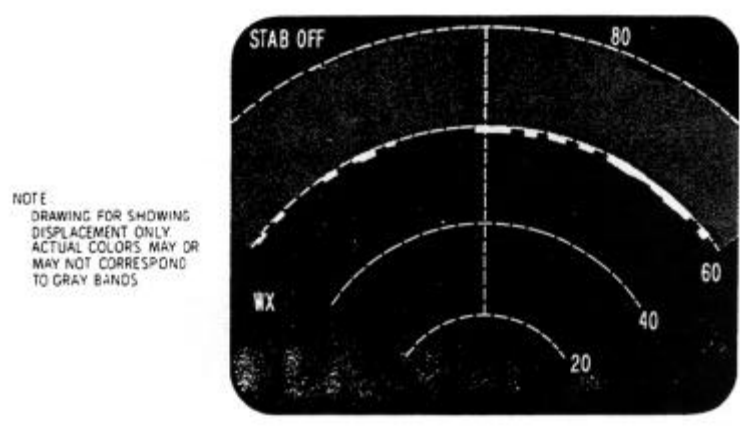
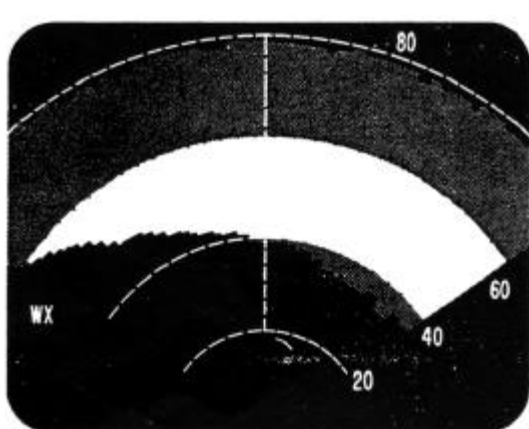
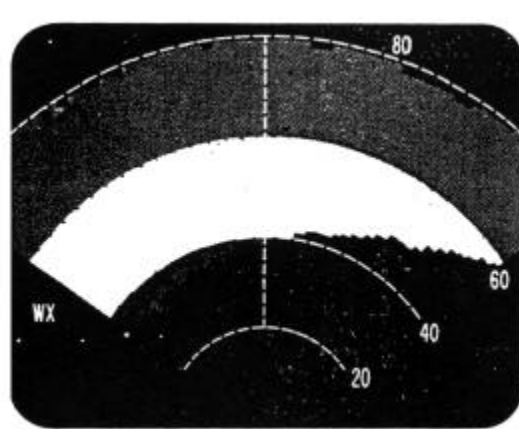

Figure 2.9-1. Video Pattern, Level Flight
Figure 2.9-2. Video Pattern With Stab Error
Figure 2.9-3. Video Pattern With Stab Error
- (1) Fly to a convenient altitude above 10,000 feet.
- (2) Select a range of 80 nautical miles, or 40-mile range for 12-inch antennas. Set the mode to SRCH 3.
- (3) Pull the PULL STAB OFF switch (on tilt control pot) out on the Radar Control Panel to remove antenna stabilization.
- (4) While flying level ( $0^\circ$  pitch,  $0^\circ$  roll), adjust the TILT control on the Radar Control Panel to obtain the video pattern shown in Figure 2.9-1, then note TILT control setting. The terrain band should be displayed about the third range mark.
- (5) Push the PULL STAB OFF switch (on tilt control pot) in on the Radar Control Panel to restore antenna stabilization.
- (6) The pattern observed in step (4) should not change. If the pattern shifts as in Figure 2.9-2 or Figure 2.9-3, it will be necessary to ground-check leveling of the gyro and accuracy of the Horizon Situation Indicator. Use TILT control to find exact error.
- (7) Roll the aircraft  $20^\circ$  right. For perfect stabilization, the terrain band shown in Figure 2.9-1 should not shift.
- (8) In step (7), if the terrain band shifts as shown in Figure 2.9-2, increase the tilt angle, by means of the TILT control on the Radar Control Panel, until the pattern is similar to Figure 2.9-1.
- (9) In step (7), if the terrain band shifts as shown decrease the tilt angle (using the TILT control) is similar to Figure 2.9-1. Note the new position control. It should not be more than two degrees in step (4).
- (10) If the differences between steps (8) and (4) or steps (9) and (4) are greater than two degrees, recalibrate the roll stabilization circuitry to the gyro using the following procedure:
- (a) Reset the TILT control under the flight conditions of step (4) with stab on. Then roll the aircraft 20° right.
- (b) If the pattern shifts per Figure 2.9-2, slowly adjust the ROLL TRIM potentiometer on the Radar Control Panel (recessed pot below SRCH button) until the terrain band display is as shown in Figure 2.9-1. Usually a clockwise adjustment is required.
- (c) If the pattern shifts per Figure 2.9-3, slowly adjust the ROLL TRIM potentiometer on the Radar Control Panel (recessed pot below SRCH button) until the terrain band display is as shown in Figure 2.9-1. Usually a counterclockwise adjustment is required.